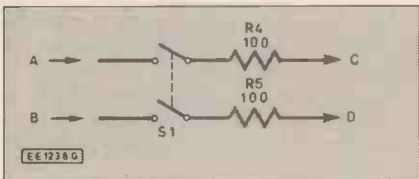
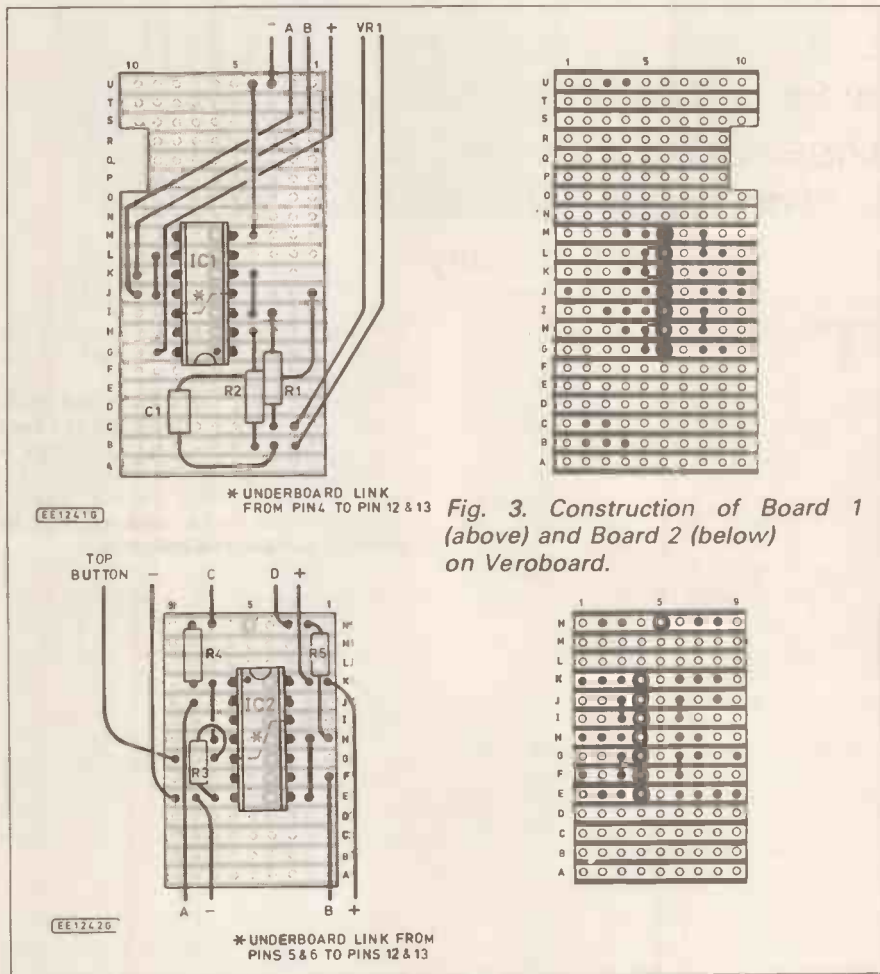

Fig. 2c. Simple connection method.
Fig. 3. Construction of Board 1 (above) and Board 2 (below) on Veroboard.
The circuit is in two parts (Fig.2a, 2b), which are mounted on two small pieces of Veroboard shaped to fit the Quick Shot II joystick as detailed in Fig. 3.
**Option 1:** The simplest connection method is to use a double-pole changeover switch, momentary or latching, to connect to the left and right lines as in Fig. 2c. This is ideal for a home-made joystick or a re-used broken joystick fitted with left, right, fire and waggle buttons connected as shown in Fig. 3. The above photo shows an early prototype unit which is still sometimes preferred.
The construction of the boards 1 and 2 should not present any problems if the layout in Fig. 3 is followed. Take care to make the correct breaks in the tracks, there are 15 in total, and fit the wire links. Sockets should be used for IC1 and IC2. All the components must lay as close as possible to the boards as space is restricted in the joystick. In particular capacitor C1 should lay flat on the board as shown.